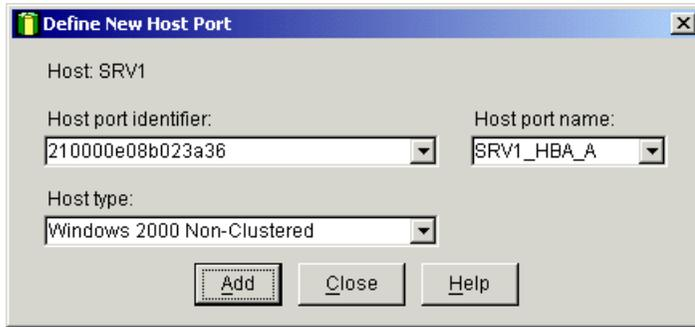

Figure 5-27 Define New Host Port window
7. The Define New Host Port window will open, as shown in Figure 5-27: